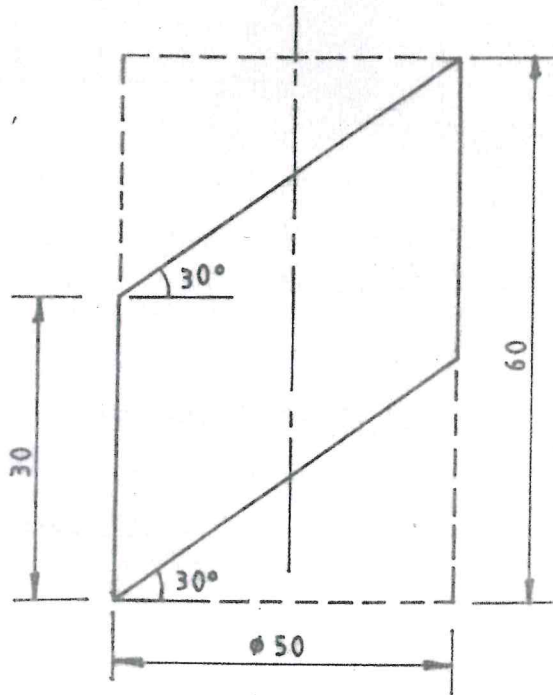

Fig. 3
6. Figure 3 shows an elevation of a truncated cylinder. Redraw the elevation and add the following: